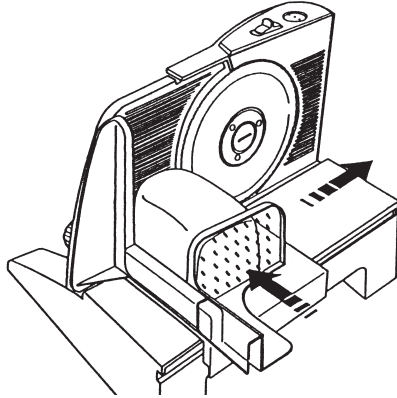

Figure 4
9. To begin slicing, push food in with the Food Press Plate and slide food over with the Feeder as shown in Figure 4. Slide Feeder back and repeat until you have sliced the desired amount of food.